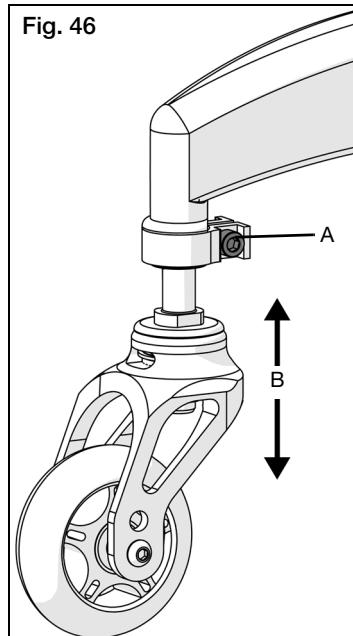

Fig. 46
- b. Loosen 6mm bolt in clamping ring (Fig. 46:A).
- c. Grasp caster fork assembly and move up or down to desired position (Fig. 46:B). Take care to not rotate caster stern within housing while repositioning.
- d. Retighten 6mm bolt in clamping ring (Fig. 46:A).